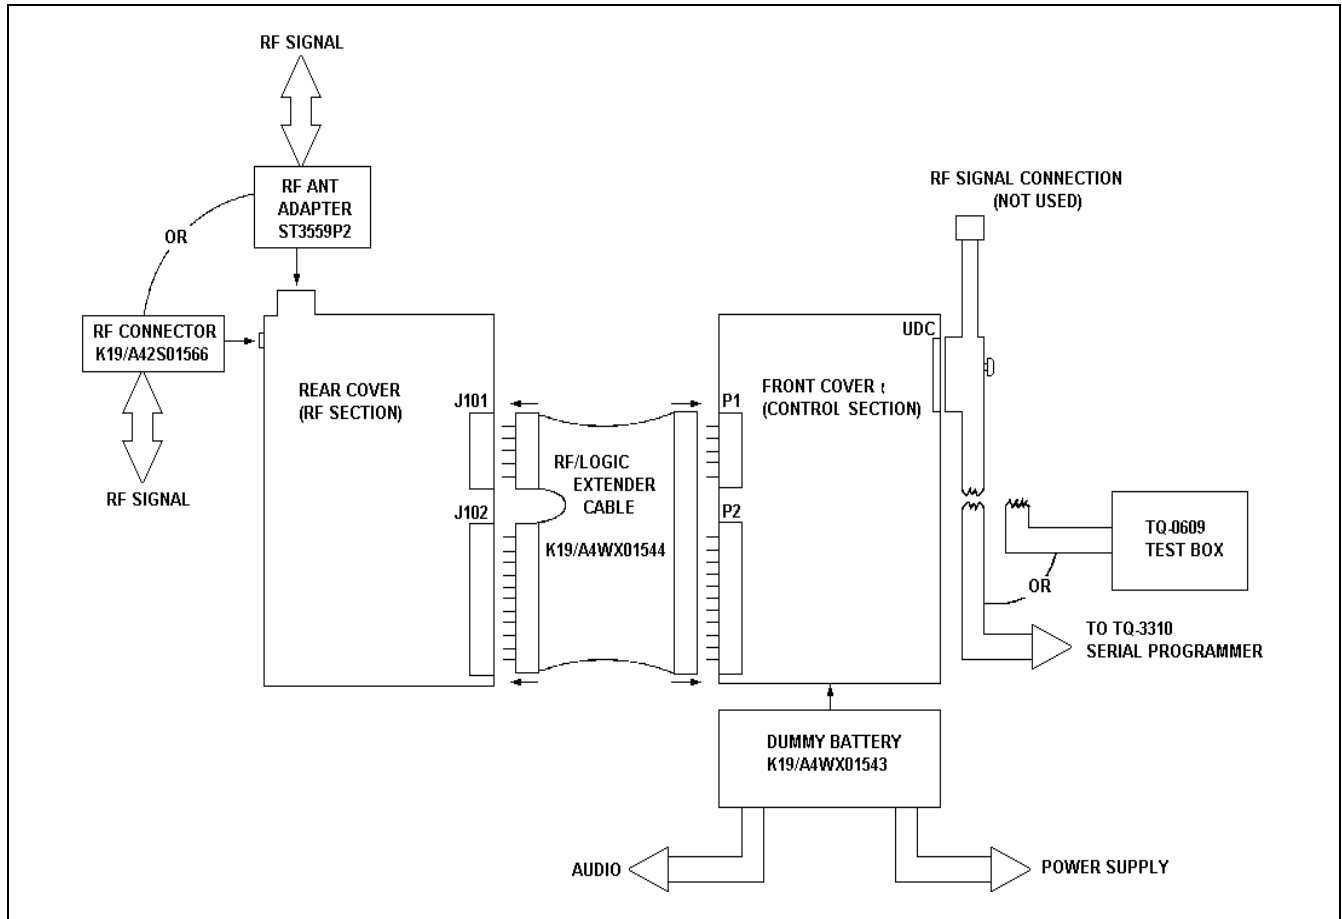

Figure 1 - M-PA Alignment and Test Set-up
- (1) Separate the front and rear covers and connect the RF/Logic Extender cable between the RF Board and the Control Board. (See Figure 1) Be extremely careful when working with these delicate connectors.
- (2) With the radio off, connect the power supply to the Dummy Battery power supply connections. Connect the audio output of the Dummy Battery to the distortion analyzer. Connect the PC Programmer to the UDC.
- (3) Set the power supply to 7.5 ±0.1 Vdc and turn the radio on.
- (4) Program the M-PA with FREQ #1, #2 and #3 from Table 1 using the PC programming option. To fully test the transmitter circuits, program a channel pair for each frequency, one at high transmitter power and one at low transmitter power. This will result in a total of six programmed channels. It may be desirable to program more frequencies into the unit. Operation of the PC programmer can be found in the TQ-3339/4339, M-PA Programming Manual.